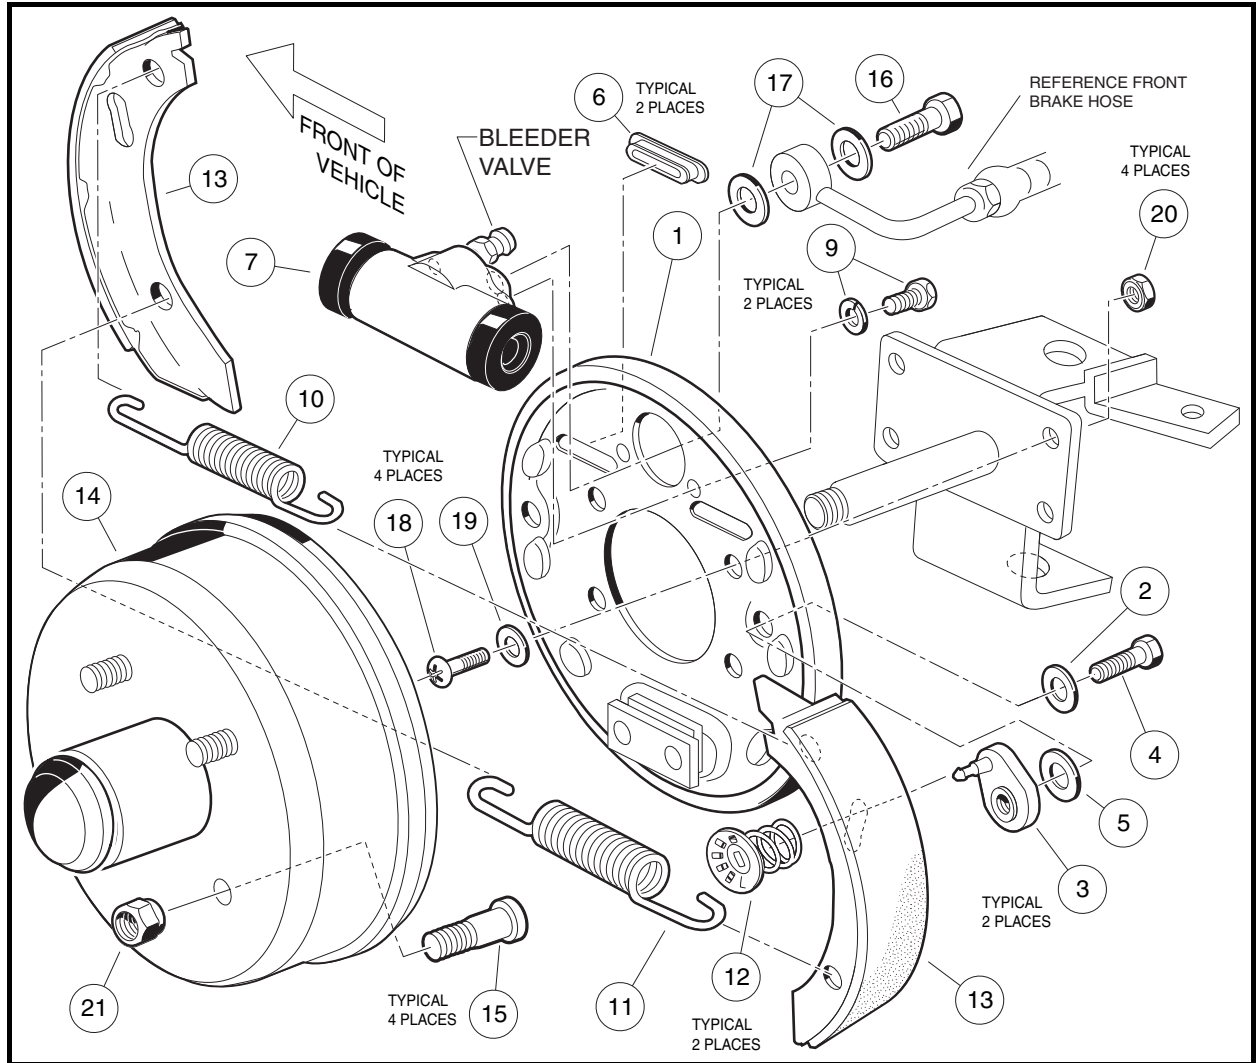

Figure 6-1 Front Hydraulic Brake Cluster Assembly
- Check each wheel cylinder (7) by pulling back the edge of each dust boot (**Figure 6-1, Page 6-2 or Figure 6-19, Page 6-21**). Brake fluid in the boot indicates a leaking wheel cylinder and should be replaced. **See Wheel Cylinder Replacement on page 6-19.**
- If the brake adjusters (3) are frozen (requiring more than 65 in-lb (7.4 N·m) to turn freely), worn or loose, replace the adjuster assemblies in pairs (**Figure 6-1, Page 6-2**). **See Brake Shoe Adjuster Replacement, Section 6, Page 6-21.**